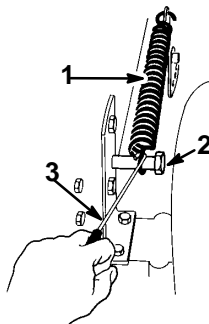

Figure 45
15. Hook the height-of-cut lift assist spring onto the retaining bolt (Fig. 45), using the spring tool provided with the machine.